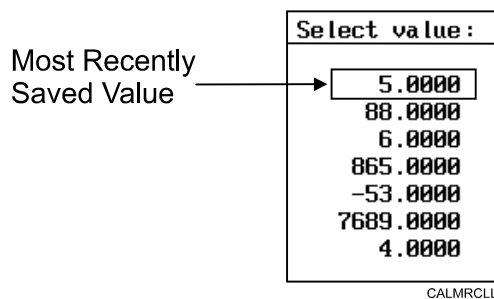

Figure 12-6, Math Calculator Select Value Pop-up Menu
2. Highlight the **Math Calculator** template, and press **ENTER** to display the **Select value:** pop-up menu, with the most recently saved value displayed at the top of the list. Refer to **Figure 12-6**.